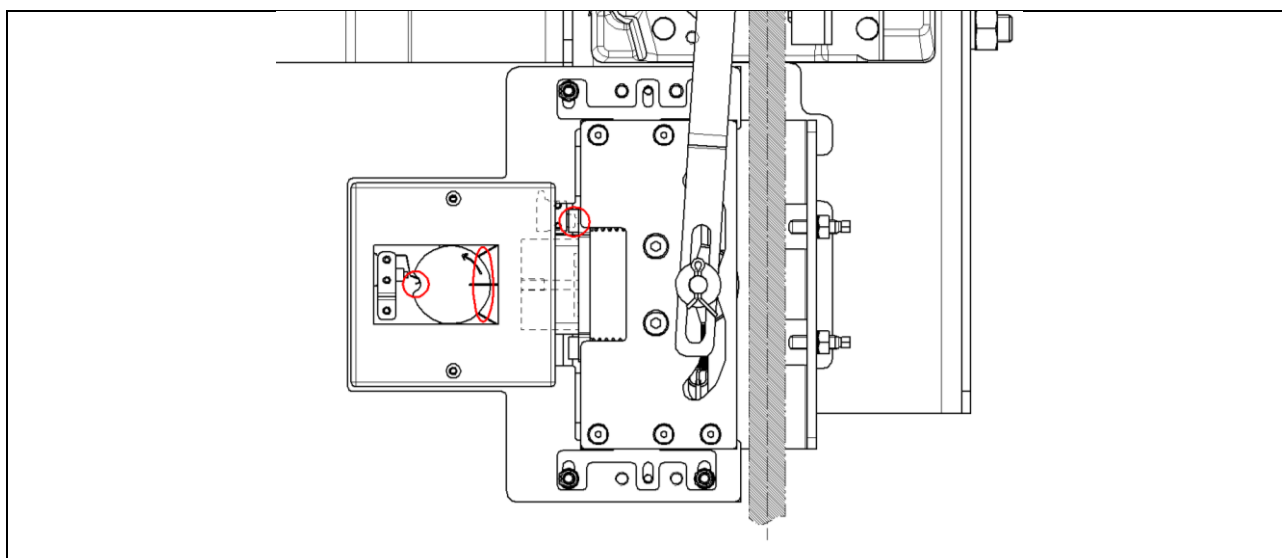

Figure 21: Position monitoring check points
If the holding magnet (item 2) is energised and the trigger roll (item 1) is in the home position, the marking on the release disc MS (item 10) must be between the two marking lines on the excentric guide. If the line on the release disc MS (item 10) is outside this range ($\pm$ 30°), you must contact the manufacturer (figure 21).
Low power mode may only be activated at a stop. The trigger roll (item 1) is moved onto the guide rail (item 5) for a reset motor (item 7) triggering period that can be specified in parameters and is therefore in the ready position. This triggering period is around 2 seconds. The precise triggering period must be set during commissioning. The markings in figure 21 are provided for this. Due to the spring-mounted components, the required stopping precision for the rotary movement is within a tolerance range of 5 degrees. In this tolerance range, the trigger roll (item 1) is touching the guide rail (item 5) in accordance with figure 8.
In the home position, the marking line must be within the range shown in figure 21.